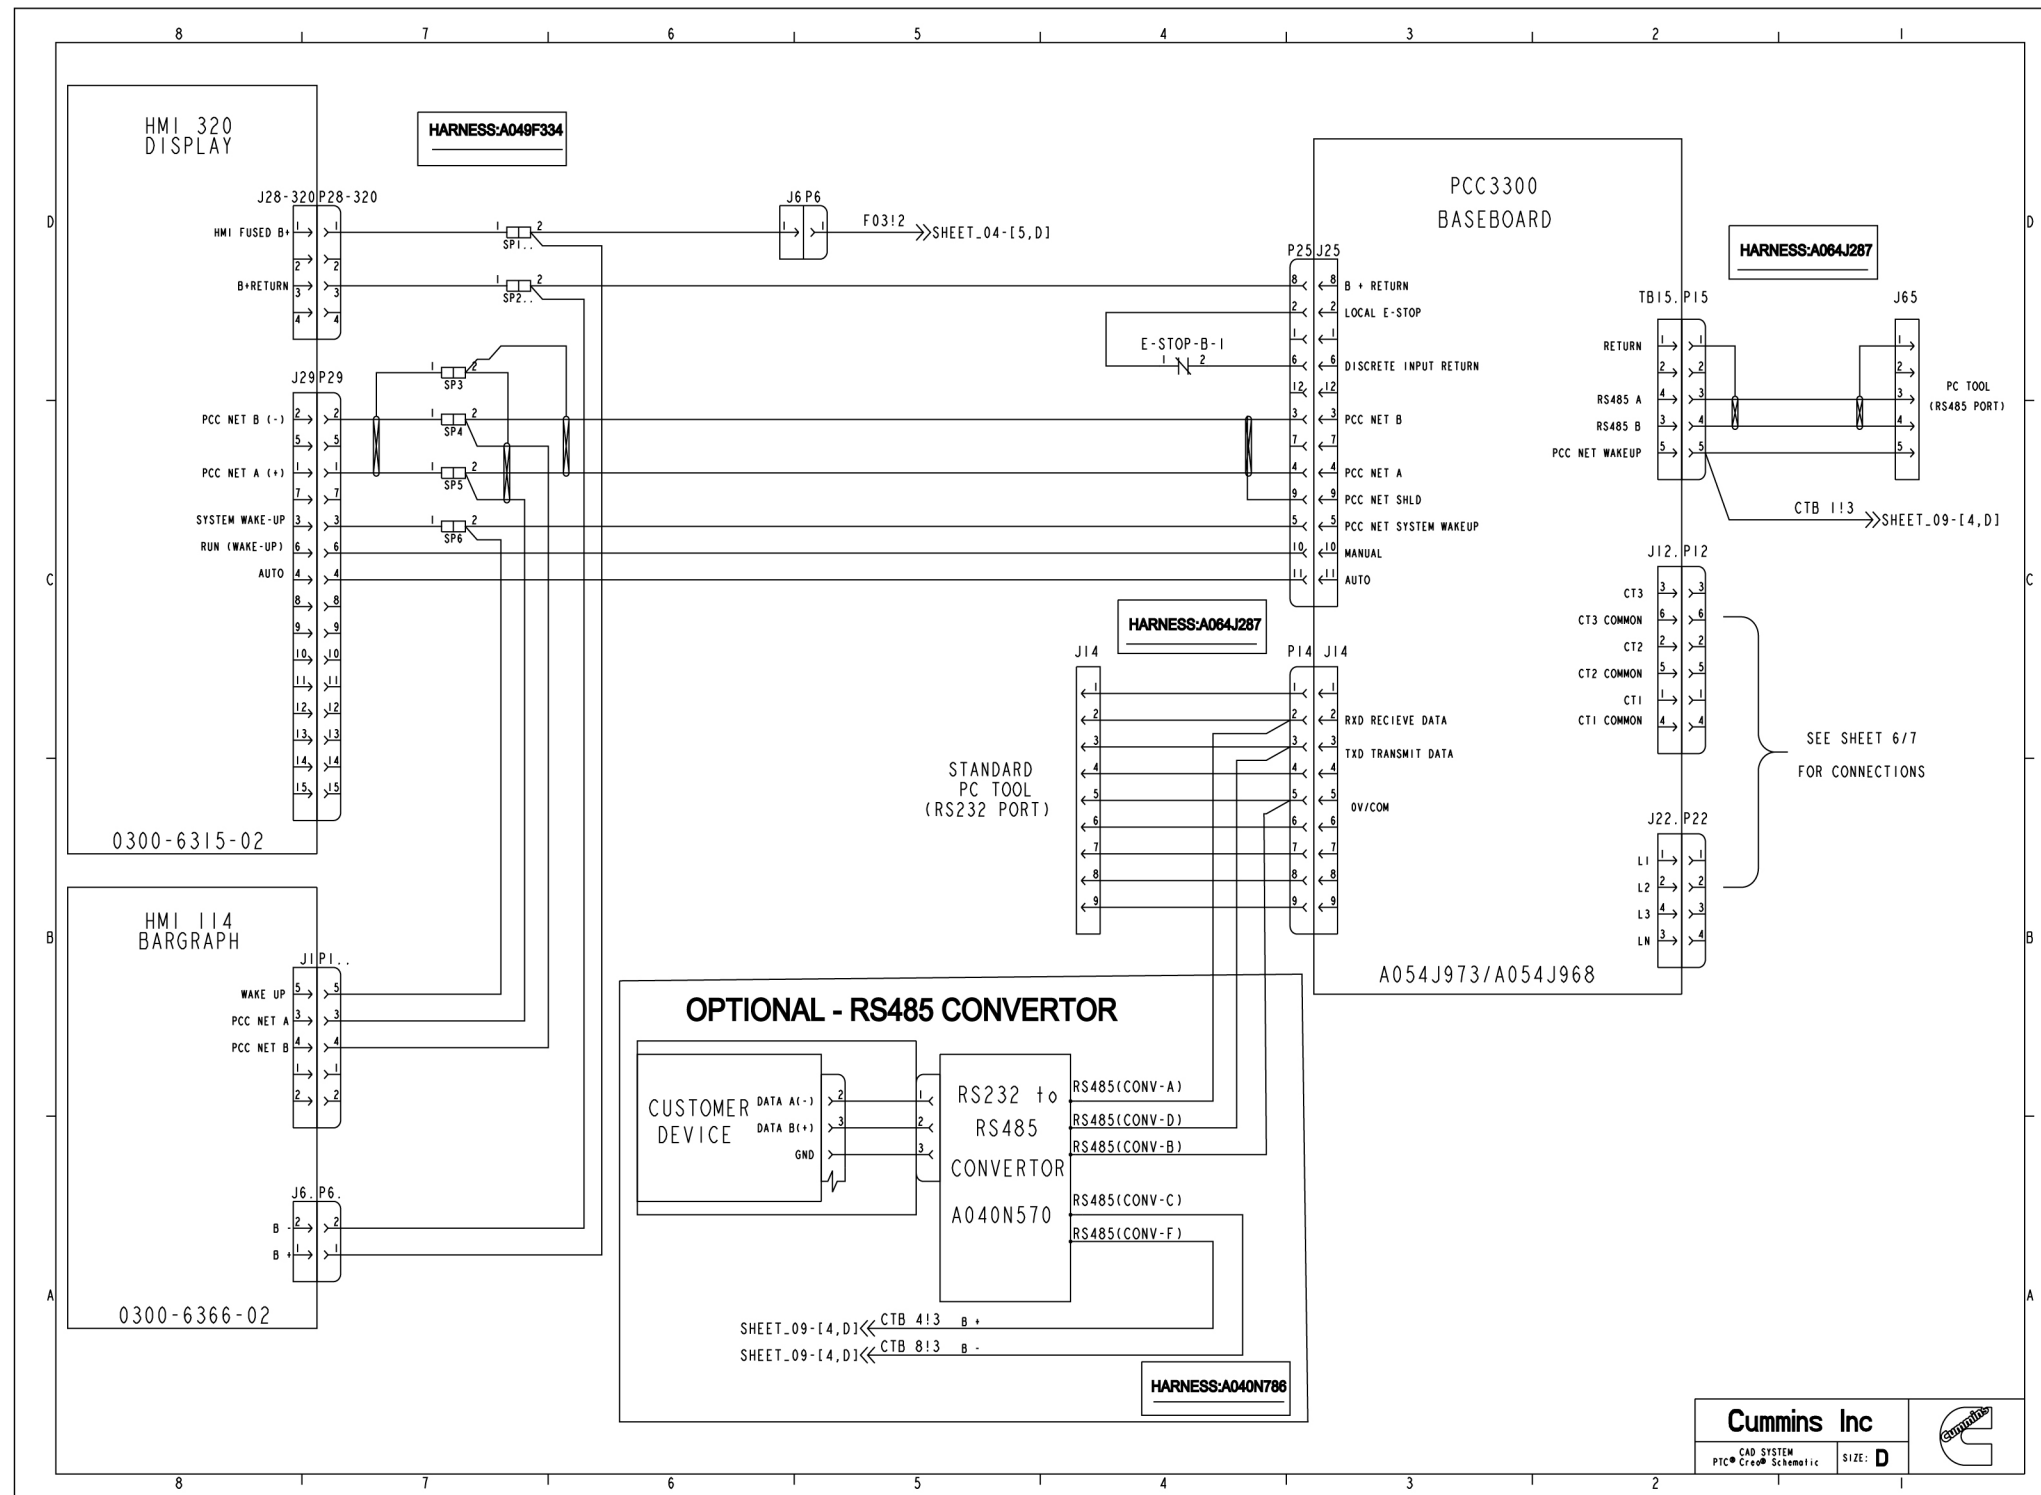

FIGURE 87. WIRING SCHEMATIC (SHEET 3)
- Figure 87. Wiring Schematic (Sheet 3) 391